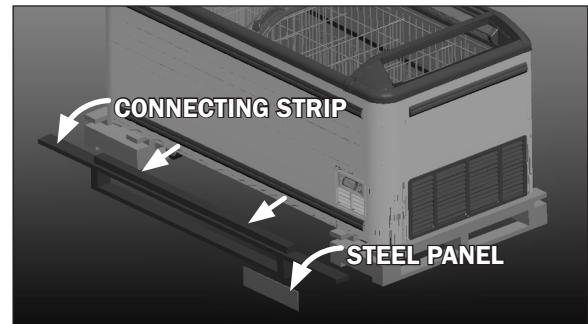

Fig. 4 Remove connecting strip
3. Use a (philips) to remove the screws on each of the steel panels at each corner of the pallet. After the steel panels are removed pull away the connecting strips (Fig. 4) at each pallet side. Insert pallet jack or fork lift at the gap left by the connecting strips, turn up the case and take away the two side/end pallets. Repeat as needed.